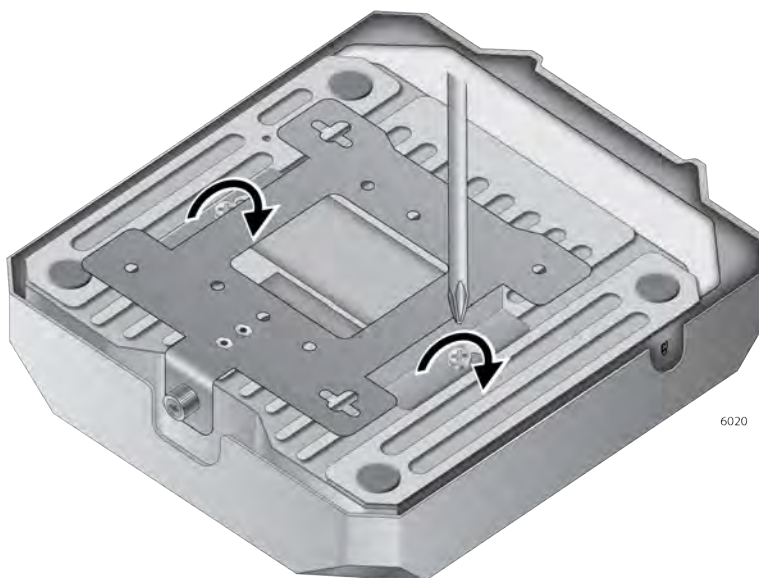

Figure 15. Adjusting the Screws on the Access Point
3. Tighten the screws so that they touch the mounting bracket plate, and then loosen them by approximately 1/4 turn. Refer to Figure 15.